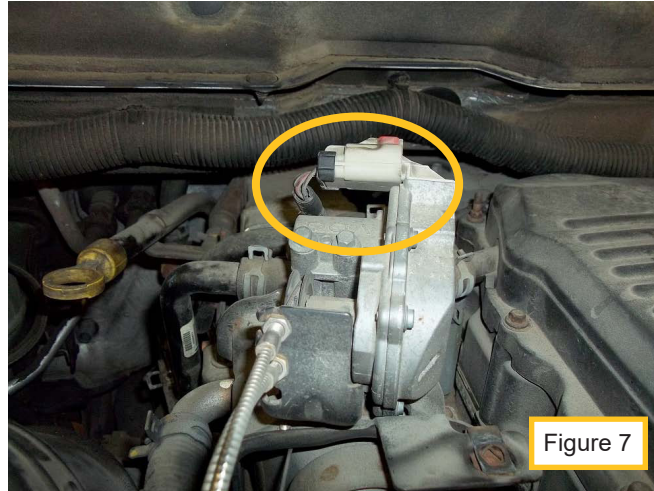

Figure 6
6. Turn the thumbscrew on the EGR Manual Opener (069-3385) fully counterclockwise but do not remove it from the adapter. Remove the EGR valve solenoid (4 screws) and set it aside, install the EGR Manual Opener in its place using only two screws. Disconnect the EGR valve solenoid electrical connector. Rotate the thumbscrew fully clockwise, the EGR valve is now open (see Figure 6). Alternately, a scan Tool can be used to command the solenoid valve open and removal of the solenoid is not required, however the EGR valve solenoid electrical connector must be connected.